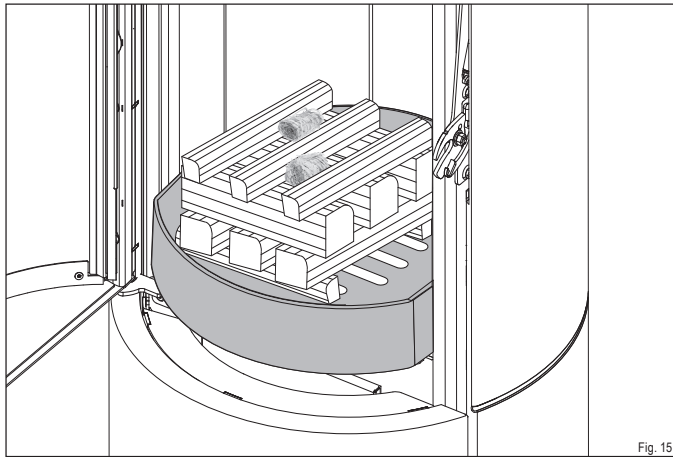

Fig. 15
- ▶ Place the logs in the middle of the grate in the firebox (Fig. 15):
- ▶ place the first 2 (2) at the front and back end of the grate opening, perpendicular to the firebox glass
- ▶ place the next 3 (1) on top of the first two pieces, parallel to the firebox glass
- ▶ the next 3 (1) across
- ▶ place the last 3 (2) lengthwise on top of this
- ▶ the kindling (3) in the middle between the top logs